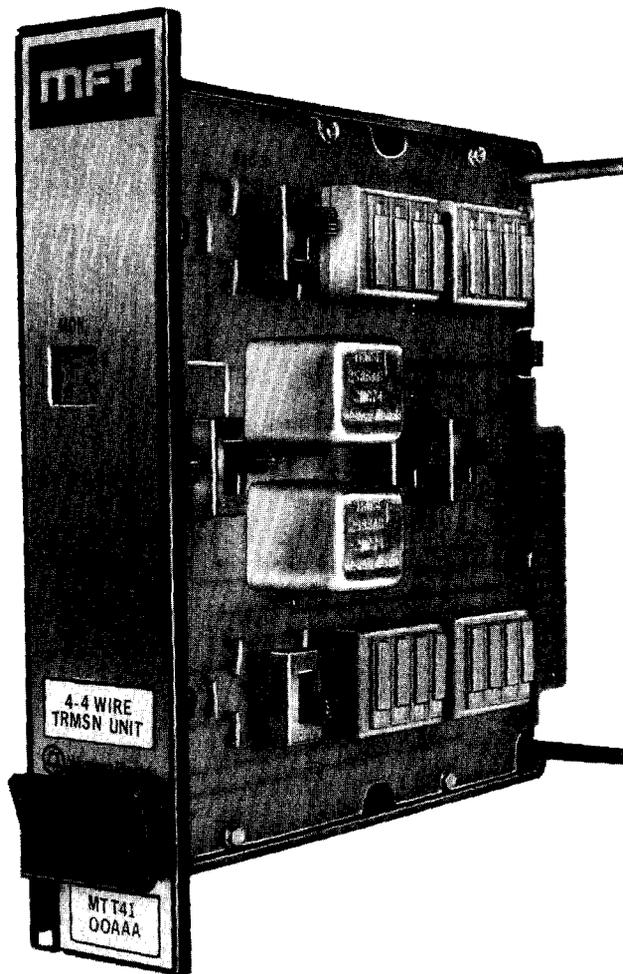

Fig. 1—J99343BD 4-4 Wire Transmission Unit
1.04 The 4-4 wire passive transmission unit (Fig. 1) is used to interface 600- or 1200-ohm facilities with 600-ohm equipment or facilities where gain and equalization functions are not required.